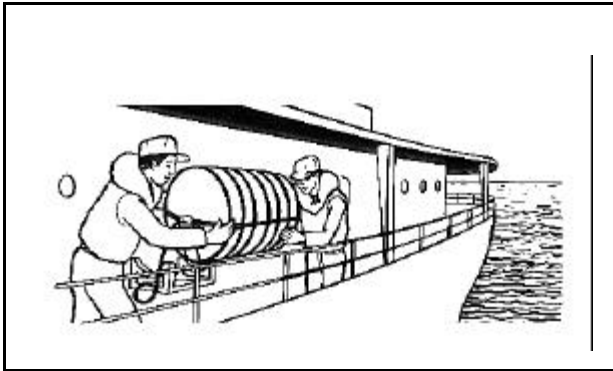

Figure 10-19. Throwing in Life Raft
- **Step 4.** With two or more crew members, throw the life raft in its container overboard (Figure 10-19).